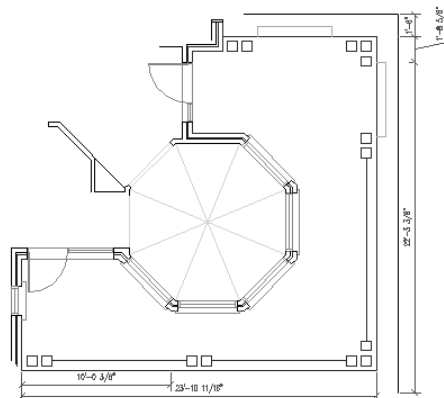

Figure 14-13: The floor plan with baseline and continued dimensions.
9. Save your drawing. It should look like Figure 14-13.